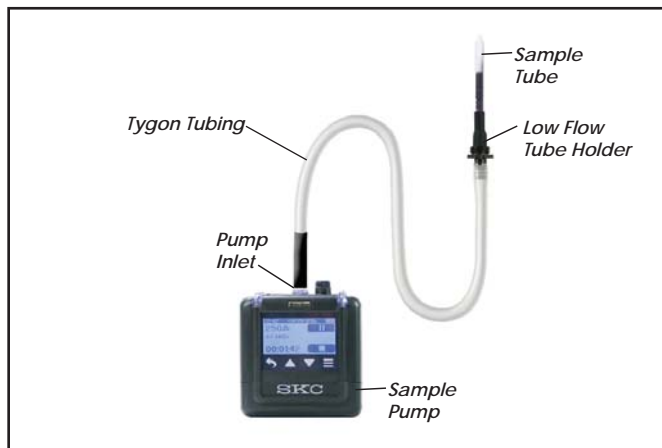

Figure 1. Sampling train with single (non-adjustable) low flow tube holder and Pocket Pump TOUCH
2. Setting up the Sampling and Calibration Trains — Figures 1 and 2